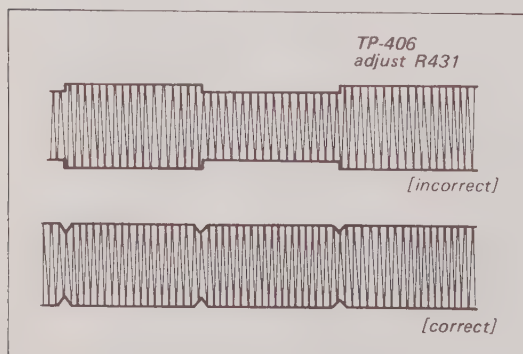

Fig. 8-6. Y-channel balance
4. Adjust R431 for equal amplitude envelopes on alternate fields. Refer to Fig. 8-6.